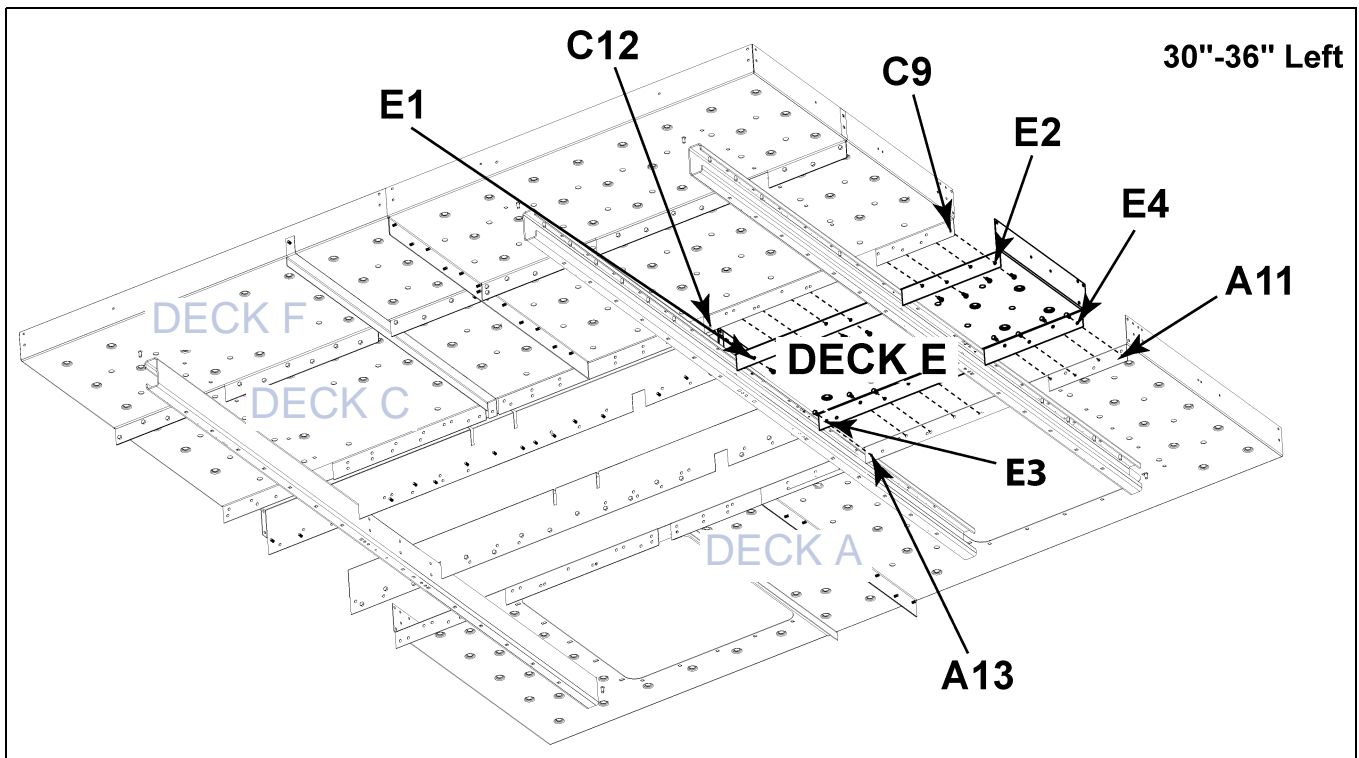

Figure 9P
1. Position Deck E between Deck A and Deck C. Note that Deck E will be connected to two (2) channels. (See Figure 9P on Page 74.)
4. Connect the Deck E kick plate flanges to toe boards and flanges of Deck A and Deck C using 3/8" x 3/4" bolts (S-7105) and 3/8" nuts (S-10028). (See Figure 9P on Page 74.)
5. Align and connect Deck E to Deck A and Deck C using 3/8" x 1" bolts (S-7469) with flange nuts (S-10028). (See Figure 9P on Page 74.)